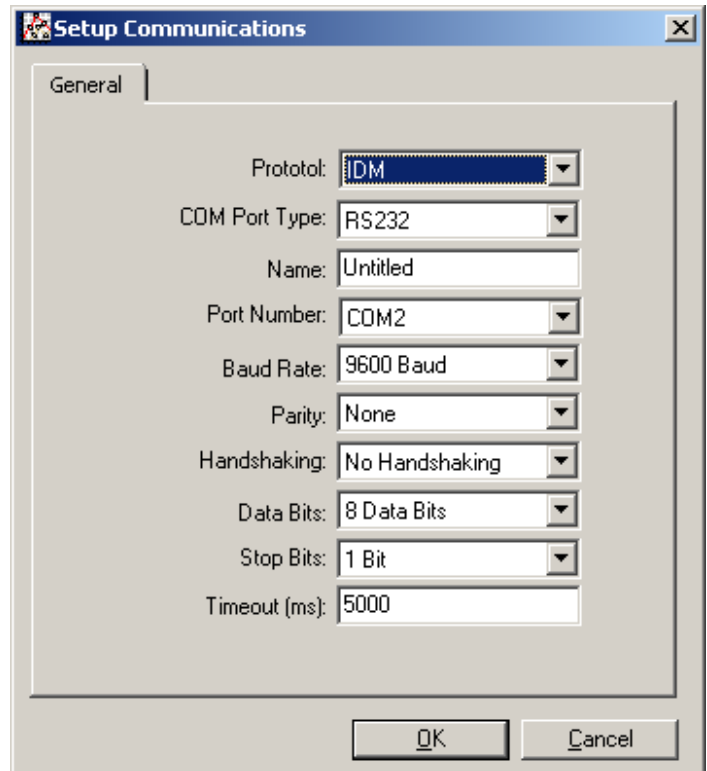

Figure 33: Setup communications screen
5. Click on the *communications port* option to select it. The *setup communications* screen appears similar to *Figure 33* on page 52.